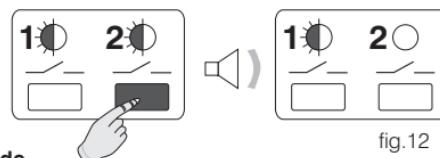

fig.12
- Hold down **2/— key** until a single acoustic signal sounds, then release it. **LED 2** is off and **channel 2** is independent of the “Master” chronothermostat (fig. 12).